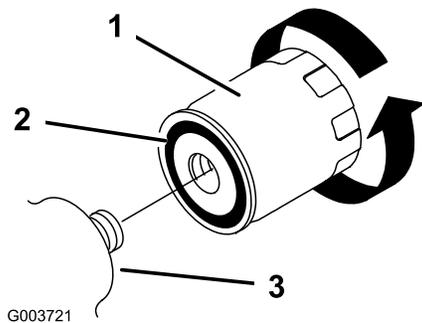

Figure 37
5. Remove the old filter (Figure 37) and wipe the surface of the filter adapter gasket clean.
6. Apply a thin coat hydraulic fluid to the rubber gasket on the replacement filter (Figure 37).
7. Install the replacement hydraulic filter onto the filter adapter (Figure 37). Tighten it clockwise until the rubber gasket contacts the filter adapter, then tighten the filter an additional 1/2 turn.